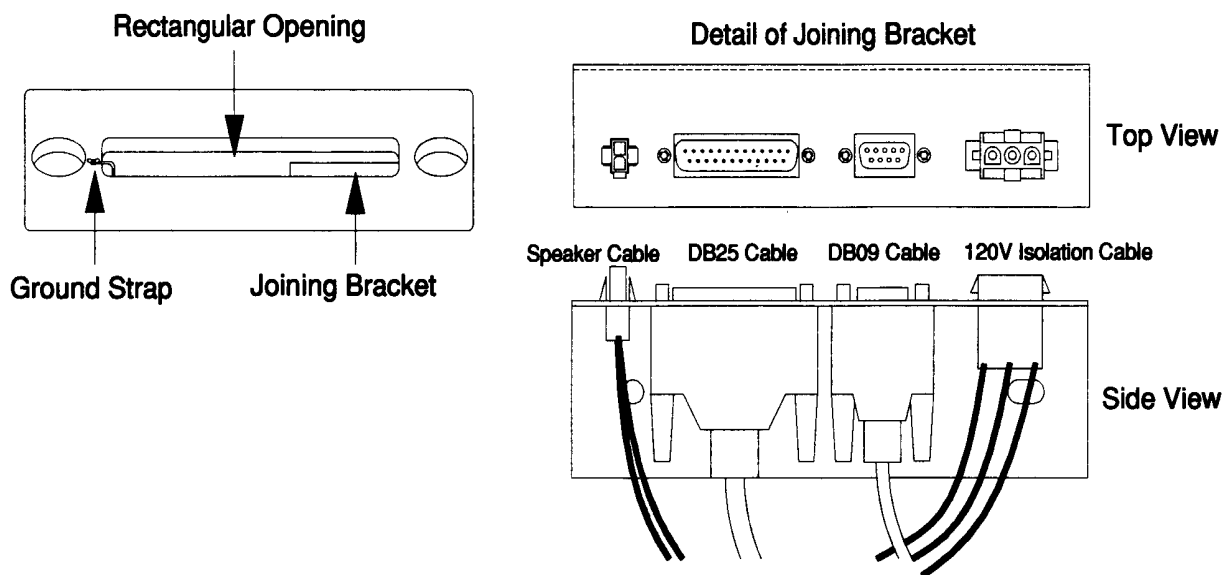

FIGURE 11
10. *Do not force cables onto connectors, they should plug in easily.* Plug the cables into the proper connectors on the Joining Bracket, which is located on the right side of the rectangular opening in the rear of the cabinet (see Figure 11). Secure the DB25 and DB09 cables in place using the thumbscrews.